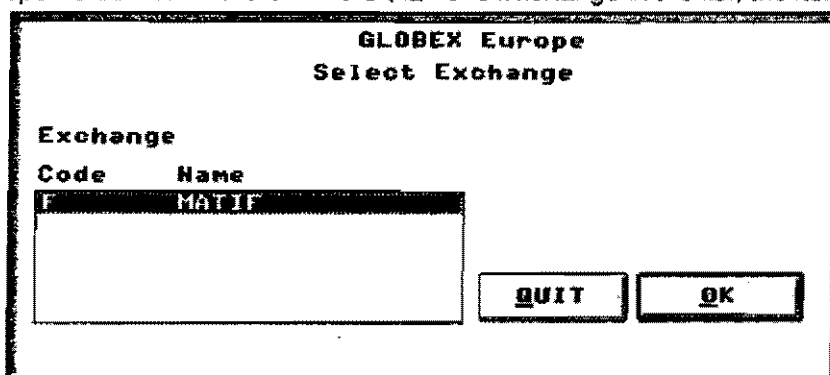

Figure 12.30 Select Exchange Dialog Box
3. Choose **OK**. The Select Exchange dialog box, shown in Figure 12.30, is displayed; the list consists only of the Exchanges that exist in the selected open order file. If there is more than one Exchange in the list, the item "All